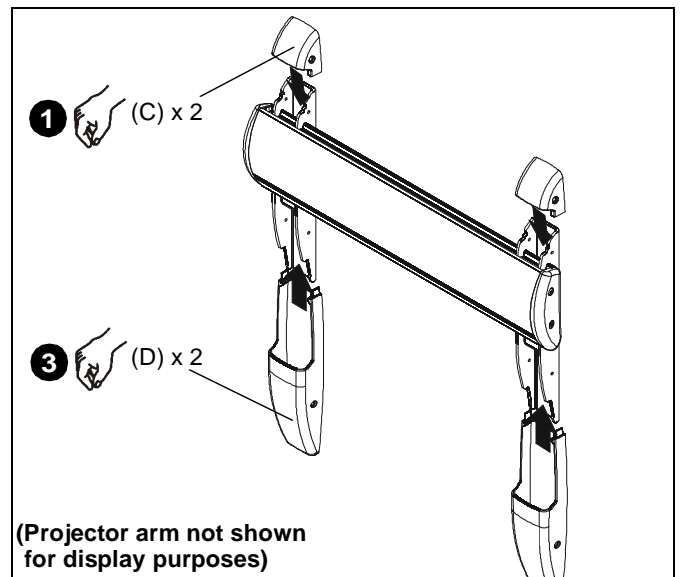

Figure 62
1. Place wall bracket top caps (C) over top of each wall bracket arm. (See Figure 62)
3. Place wall bracket bottom caps (D) over bottom of each wall bracket arm. (See Figure 62)